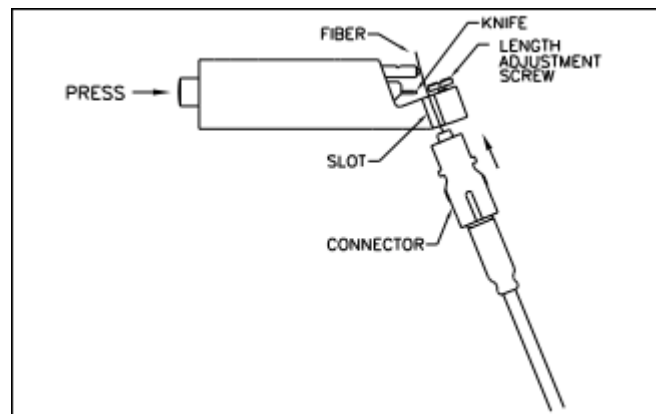

Figure 12: Ensure the ferrule is fully seated against the length adjustment screw.
14. Hold the cleave tool as shown in Figure 12. Guide the fiber along the slot on the side of the tool and insert the ferrule into the cleave tool to a positive stop. Caution should be exercised not to break the fiber. Holding the connector away from you, completely depress the trigger to cleave the fiber. The cleave tool is factory adjusted to a height of approximately 125 micron above the ferrule surface. See page 10 for troubleshooting tips should poor cleave result. Remove the connector from the tool and, with a piece of tape, dispose of the fiber waste. **NOTE:** Epoxy on the ferrule face or fiber may damage the diamond blade in the cleave tool. If necessary, contact the factory for blade refurbishment.